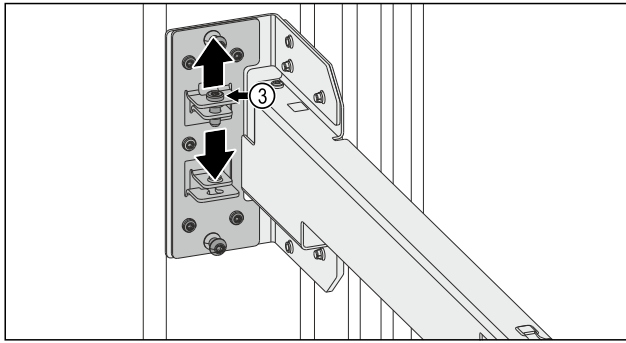

Fig. 15
- ▶ Loosen screw Fig. 15 (3).
- ▶ Screw the screw Fig. 15 (3) tight.